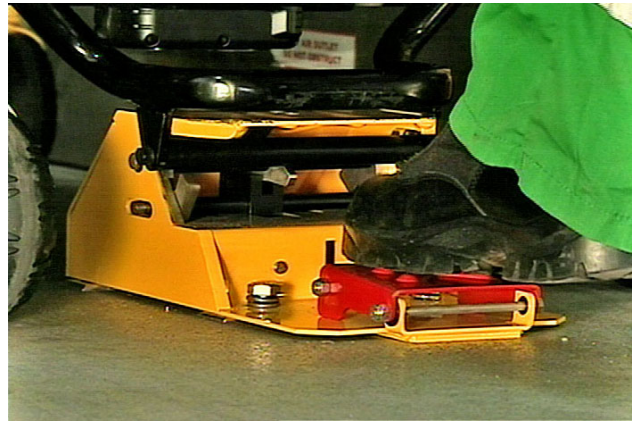

Figure 9: Remove Cot
2. Roll the cot out of the patient compartment as shown in Figure 9.